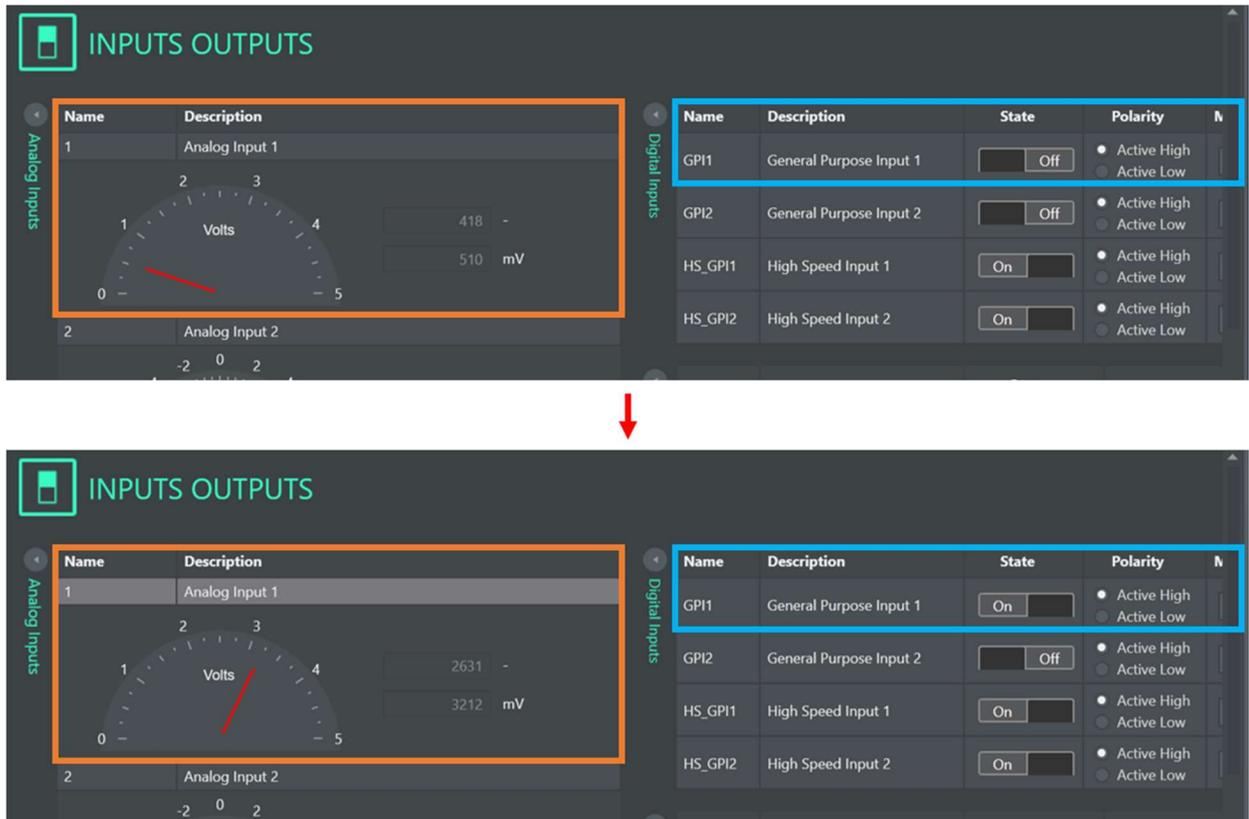

Fig. 25: Testing the Analog Input 1 and General Purpose Digital Input 1.
- 1) In the "Inputs Outputs" window, test that the servo's Analog Input 1 signal responds to manually moving the VCA's movable platform up and down (orange box in **Fig. 25** below).
- 2) In the “Inputs Outputs” window, test that the servo’s digital General Purpose Input 1 signal responds to pressing the “VCA go” button on the front panel (cyan box in **Fig. 25** below).